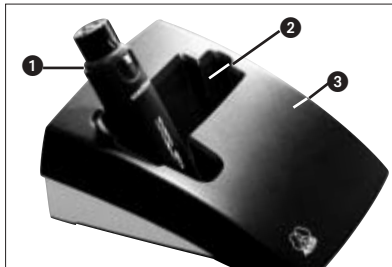

Fig. 2: SO 40
3. Insert the transmitter (1) into the appropriate charging receptacle (2) on the charger as shown in figs. 2 through 4 on page 12.
**Important (SO 40 - fig. 2): To prevent the charger from toppling and the transmitter from falling out of the charger, disconnect the SO 40 from the microphone before inserting the SO 40 into the charger.**
**If the LED starts glowing GREEN CONSTANTLY immediately after inserting the transmitter, you inserted the transmitter the wrong way. Place the transmitter in the charger as shown in figs. 2 through 4.**